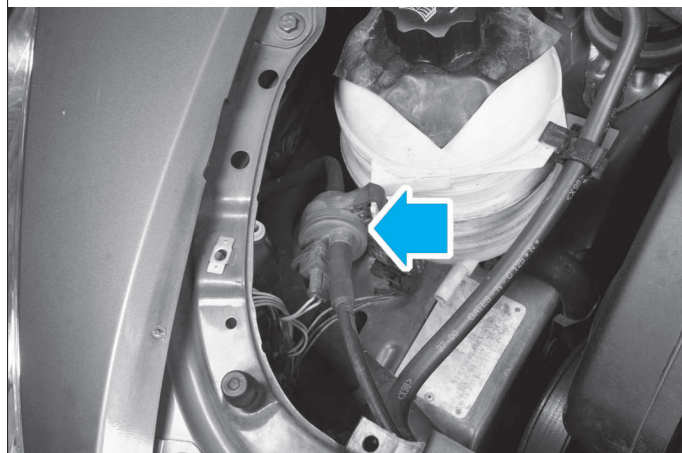

FIG. 22
**ELECTROVANNE PURGE CANISTER (FIG.22)**